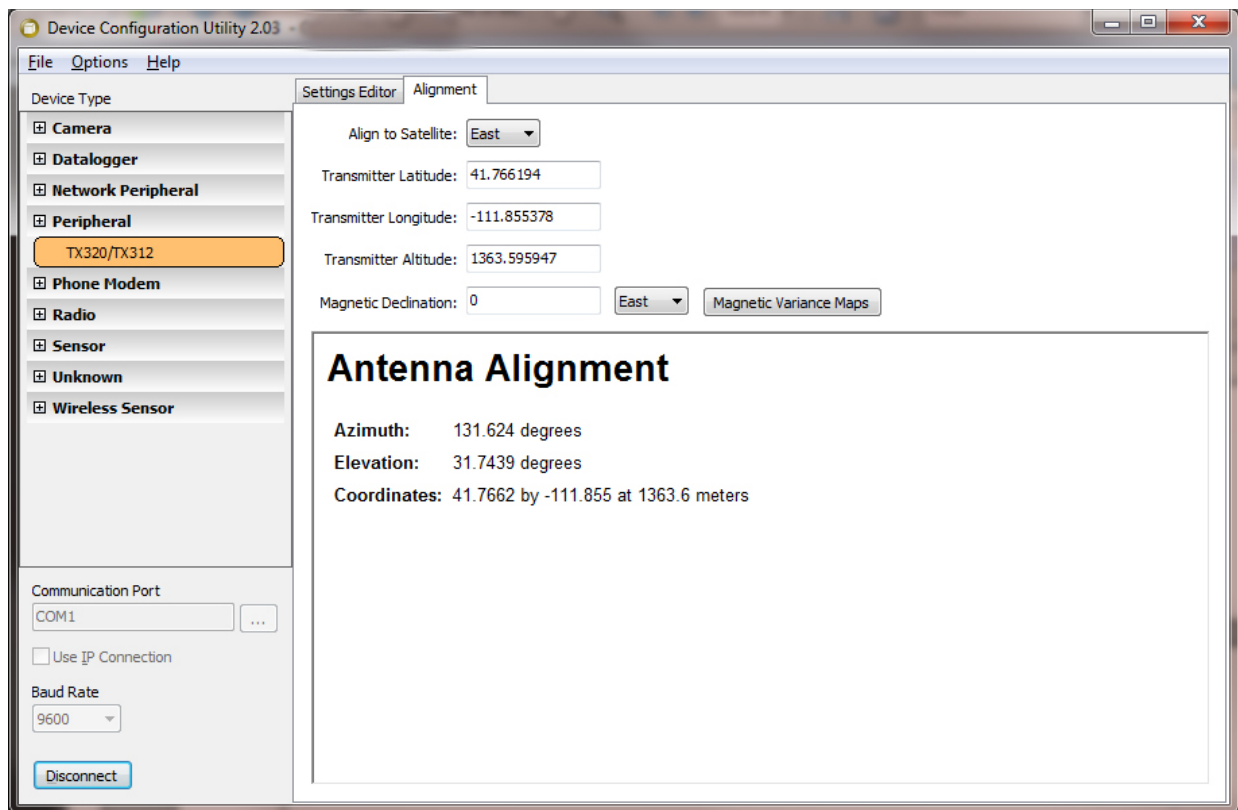

FIGURE 4-4. Alignment Tab in Device Configuration Utility
2. Aim the Yagi antenna at the spacecraft; azimuth and elevation angle positions are included on the bracket label. The **Alignment** tab in *DevConfig* can be used to determine the correct coordinates for the azimuth and elevation (see FIGURE 4-4). In the **Alignment** tab, select either the **East** or **West** satellite, enter the transmitter's **Latitude**, **Longitude**, **Altitude**, and the **Magnetic Declination**. The correct angles are then displayed in the lower panel.